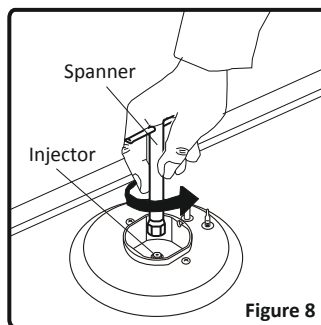

Figure 8
- Unscrew the injectors. For this, use a 7mm spanner(Figure 8).